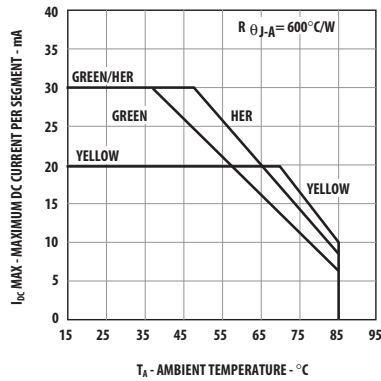

Figure 9. Maximum Allowable DC Current vs. Ambient Temperature. $T_{JMAX} = 100^{\circ}C$.
6. Derate maximum DC current for HER above $T_A = 48^\circ\text{C}$ at 0.58 mA/°C, Yellow above $T_A = 70^\circ\text{C}$ at 0.66 mA/°C, and Green above $T_A = 37^\circ\text{C}$ at 0.48 mA/°C. See Figure 9.